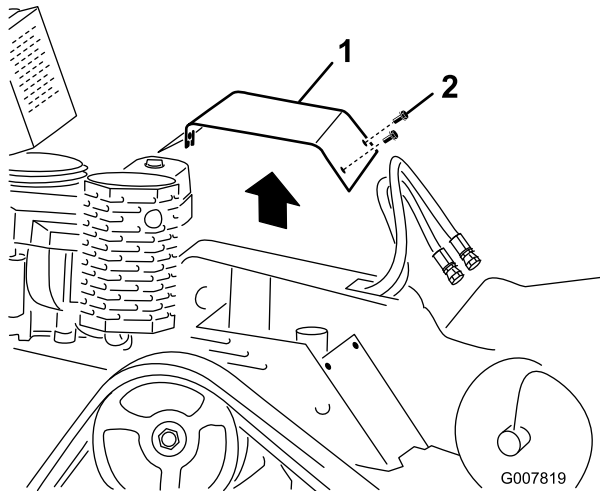

Figure 25
3. Remove the three bolts securing the cover plate to the frame (Figure 25).
2. Slide the cover plate into place and secure it with the three bolts you removed previously (Figure 25).